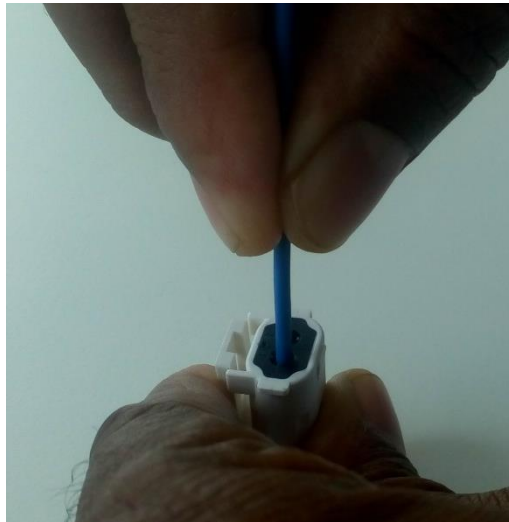
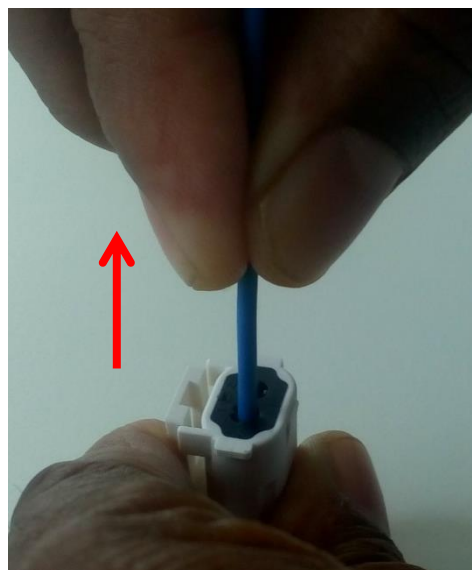

Figure 9
Figure 10
4. Push the terminal into the hole till the terminal reaches the dead end position in the housing as shown in figure 9. Pull the terminal back gently to ensure that terminal is seated properly in the housing as shown in figure 10.